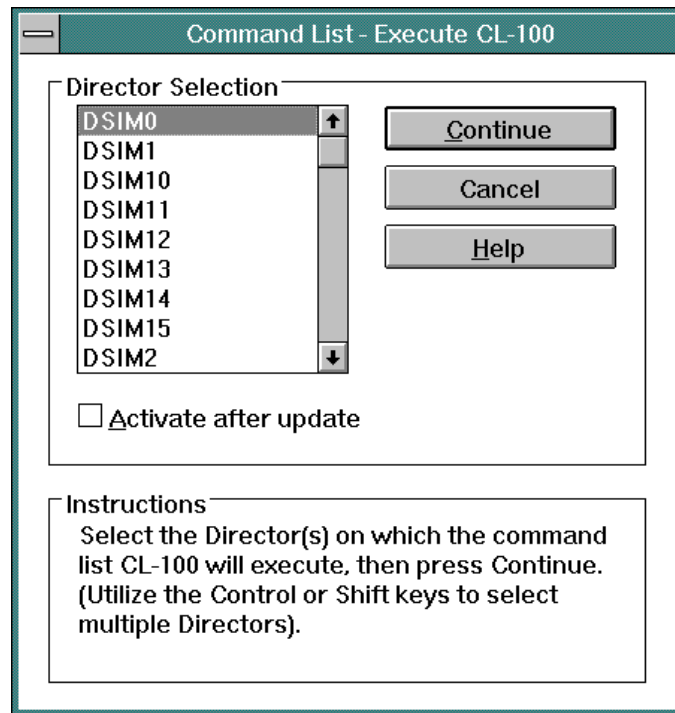

Figure 79. *Command List - Execute Dialog Box*
- **Execute List** - When a list item is selected (highlighted) and the *Execute List* button is clicked, the *Command List - Execute* dialog box appears (Figure 79). The selected command list definition is part of the dialog box title.